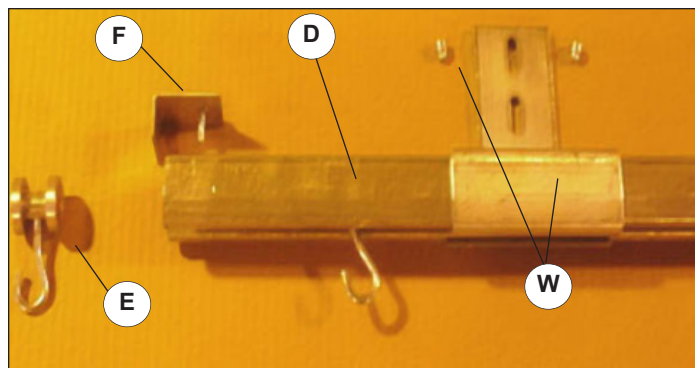

Figure 4.4
1. Provided with the door are two end stops (F), fasten to the end of the track to keep the curtain trolleys from coming out of the track, **Figure 4.4**.